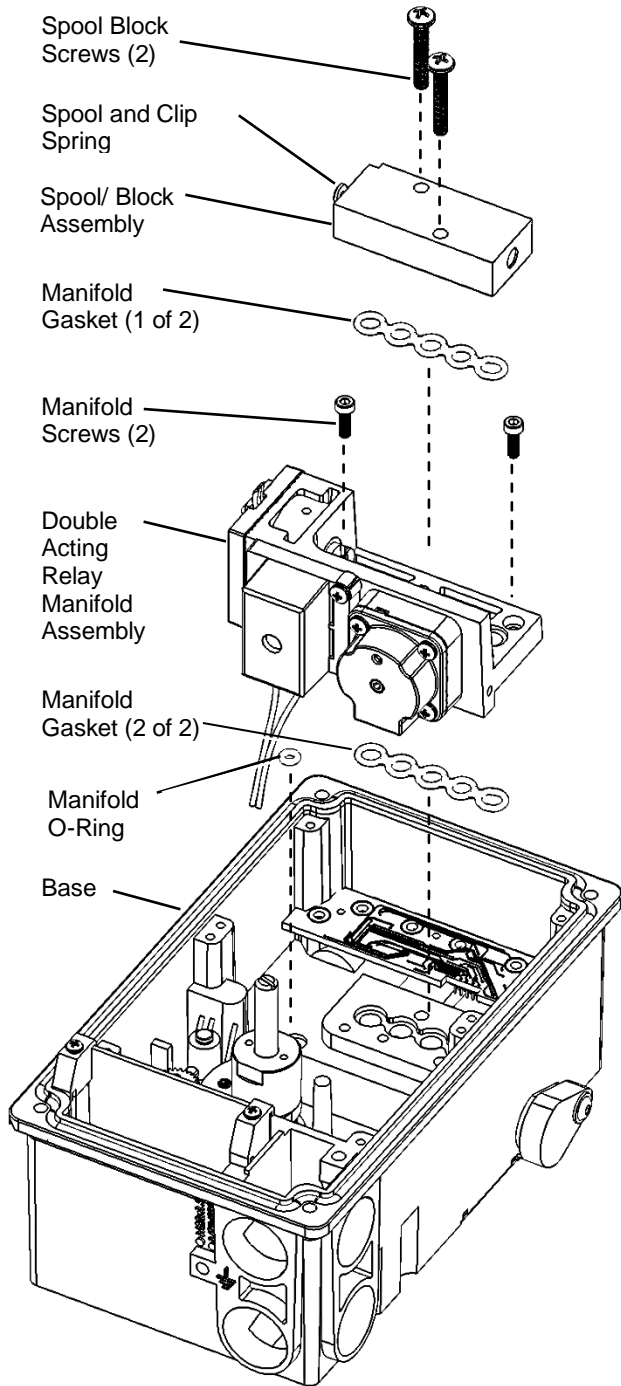

Figure 53: Double Acting Relay Assembly
- 2 Unscrew the 6 screws holding the pressure sensor board in place. See Figure 53.